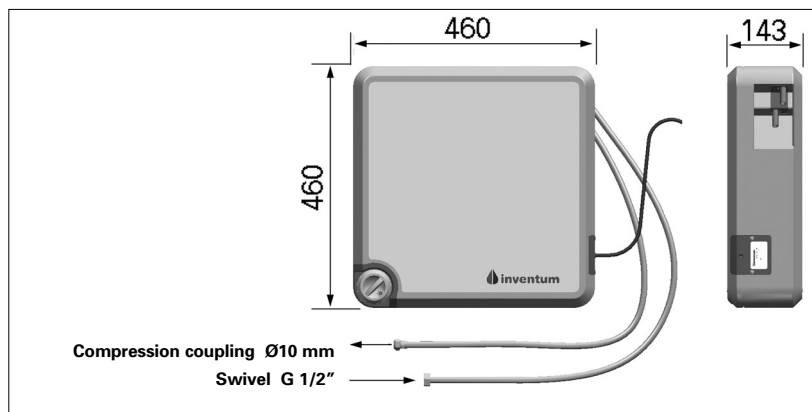

Fig. 4 Dimensional sketch
- the dimensional sketch (fig. 4)